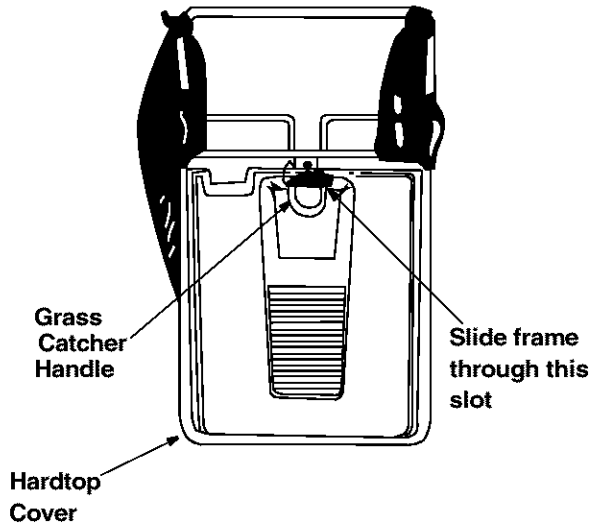

Figure 8
- Hold the bag and frame so the bag hangs from the frame (is not bunched around the frame). Slide the handle of the grass catcher frame through the slot in the hardtop cover as shown in Figure 8.